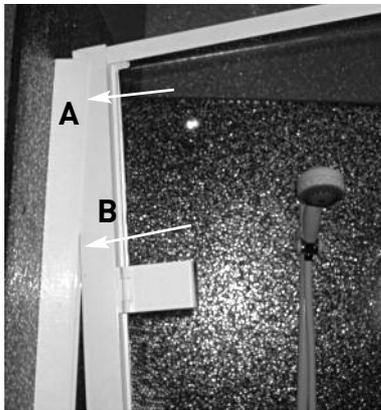

Figure a5
5. Assess the access required, decide left or right hand opening and ensure that the Hinged Door (B) opens outwards. Slide the Hinged Door following the arrows (**Figure a5**) into either Wall Profile channel (A) that is screw fixed to the wall.